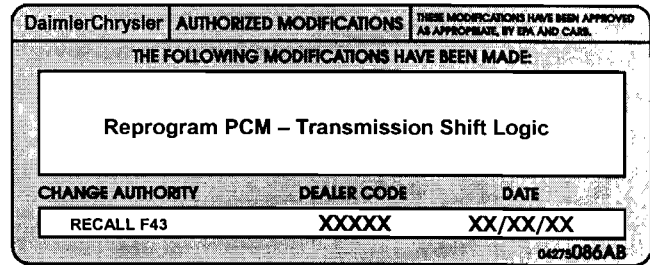

Figure 1
1. Type or print (with a ballpoint pen) the recall number, dealer code and date on the Authorized Modifications Label (Figure 1).